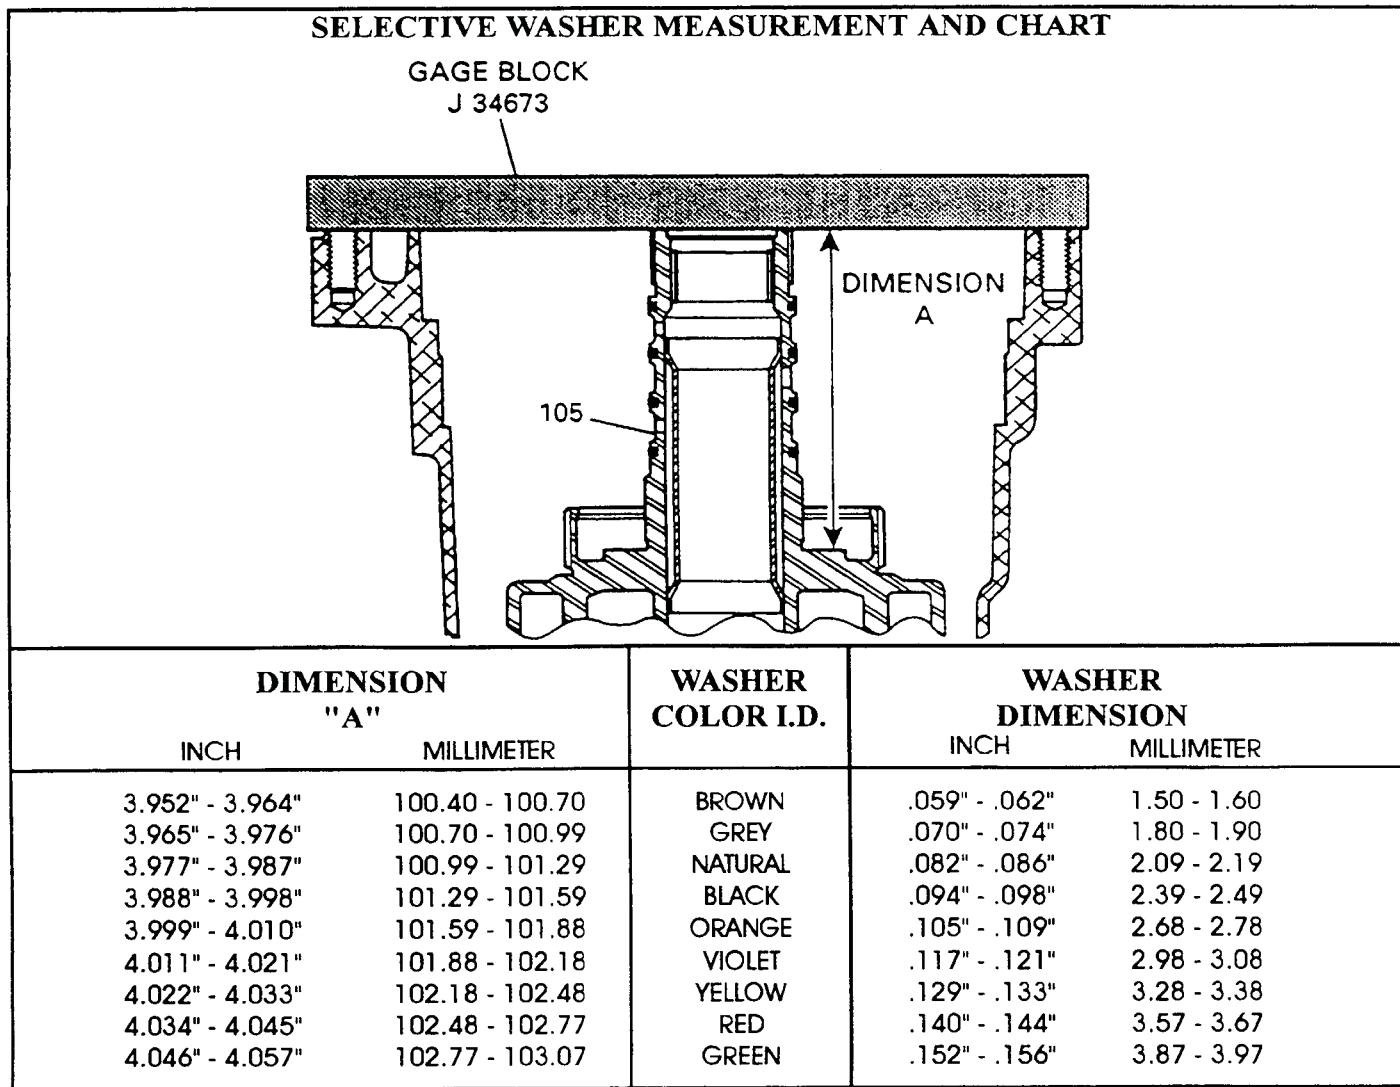

Figure 143
1. Place gage block J-34673 across the machined surface of the case as shown in Figure 143.
3. Note the measurement of Dimension "A" and choose the correct selective washer from the chart in Figure 143.